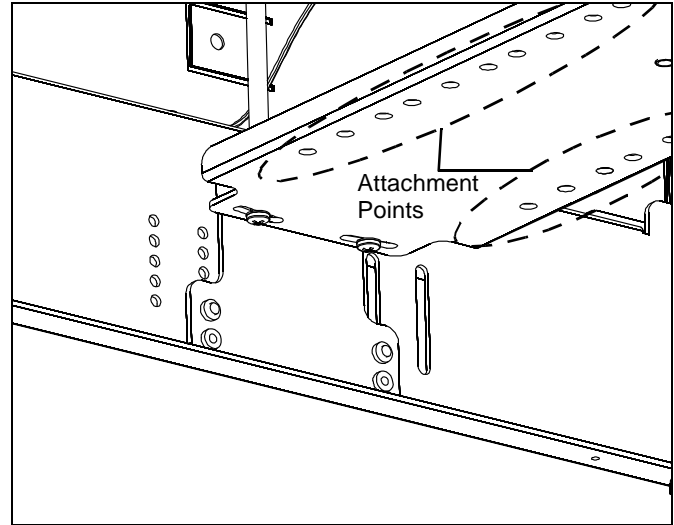

Figure 10
2. Attach the bracket with the projector to the SL151, adjusting left or right by using the various attachment points in the SL151. (See Figure 10)